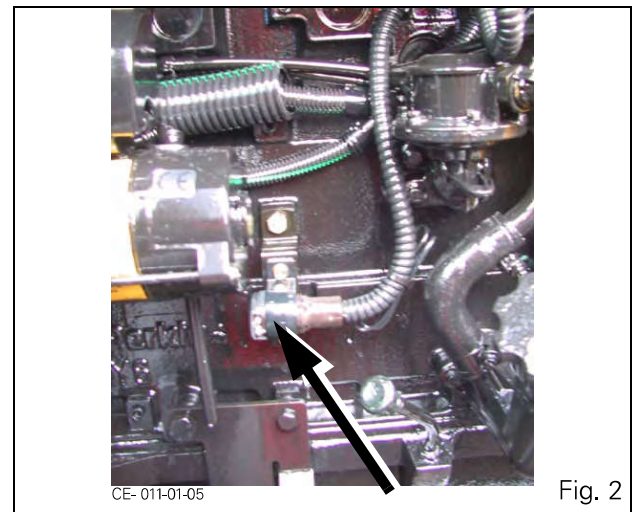

Fig. 2
**Fig. 2:** A 1000 W heater and connection cable are fitted to help cold weather starting. The heater operates with 220 V and heats the engine coolant in two hours. In extreme cold, it may be required to operate all night.